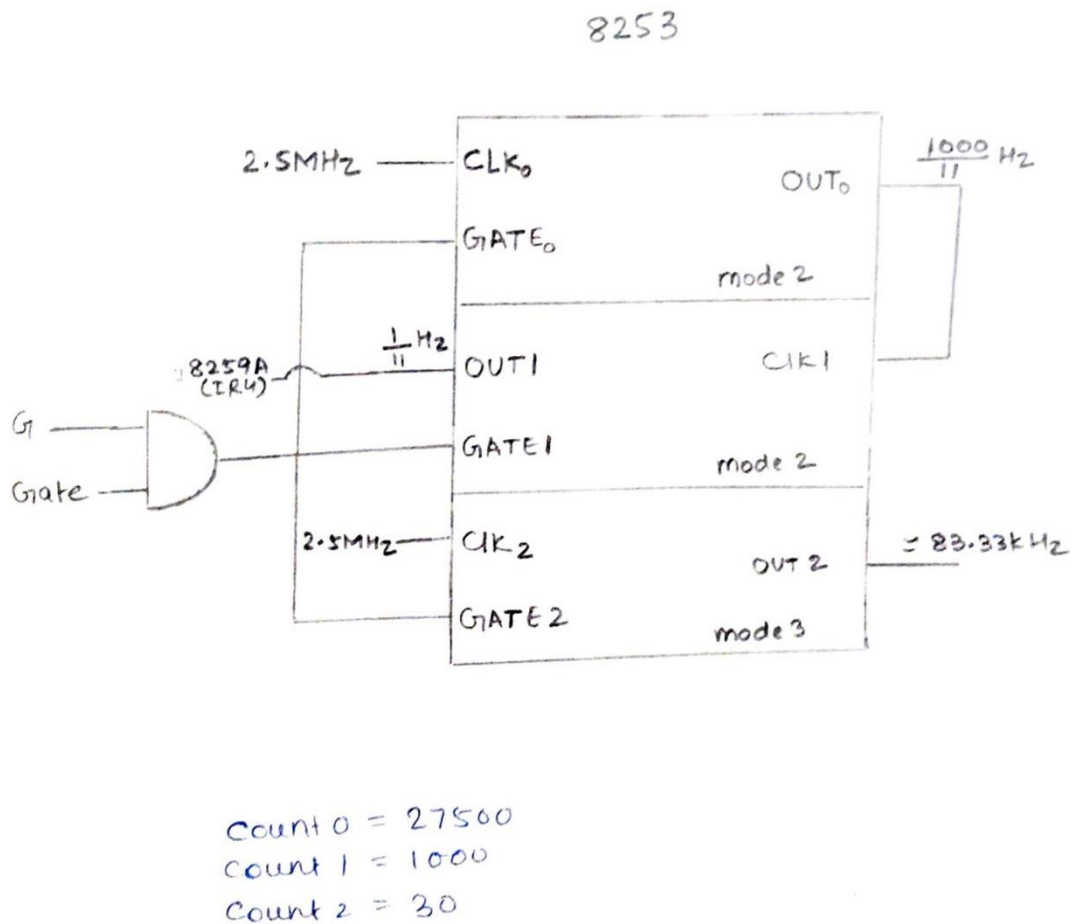

Fig 19.20
11. CLOCK USING 8253	(Fig 19.20)